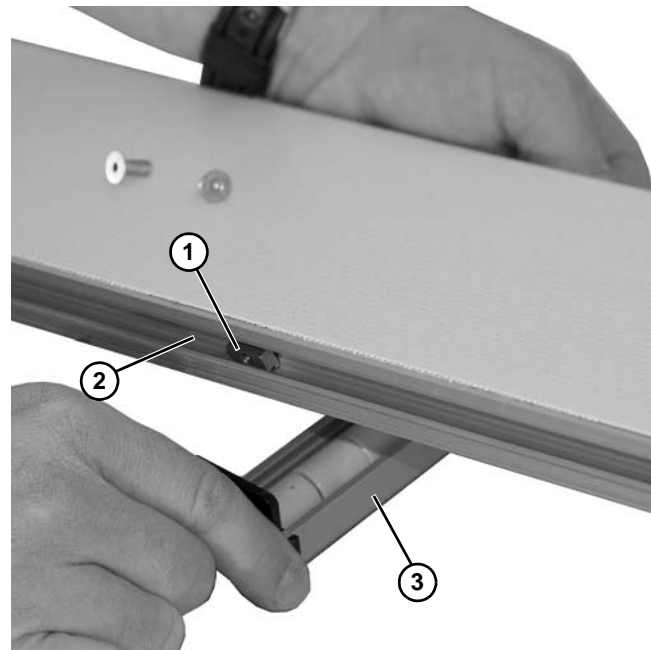

Figure 11
3. Insert one T-bar (Figure 11, item 1) into conveyor side slots (Figure 11, item 2) with a needle nose pliers.
4. Install roller assembly (Figure 11, item 3) as shown.